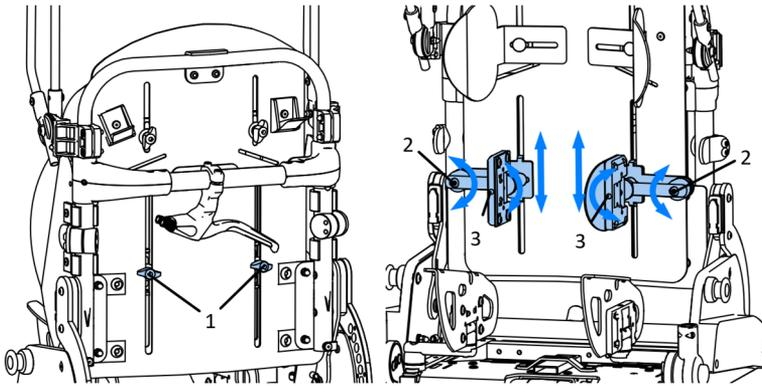

Fig. 15
Lateral supports provide the patient with support for the torso and enable its support. Adjust the position Fig. 15 by loosening the knobs (1) and screws (2) and (3) using the H4 wrench. Then, set the position of the lateral supports pads in terms of width, height and angle. After setting the position, tighten the screws (2) and (3) with an H4 wrench and the knob (1) to block the movement of the lateral supports. The design of the lateral supports allows for asymmetrical positioning of the lateral supports.